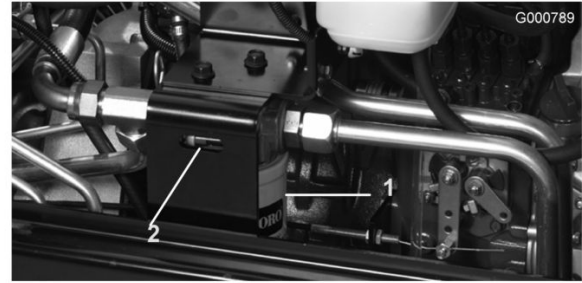

Figure 76
2. Clean area around filter mounting area. Place drain pan under filter and remove filter (Figure 76).